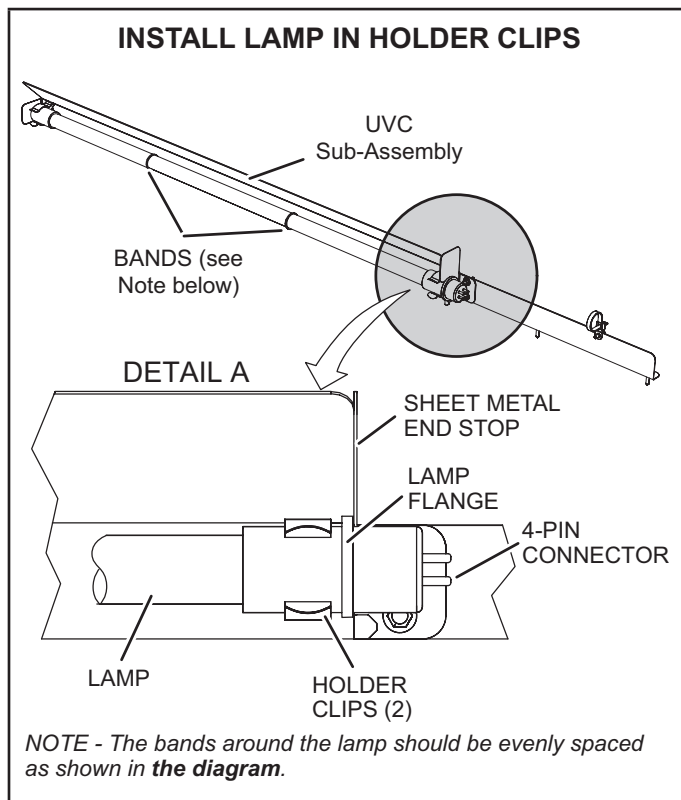

FIGURE 39
- 7 - Wear cotton gloves or use a cotton cloth when handling the new lamp. Place the new lamp in the holder clips of the UVC assembly. Verify that the lamp flange at the connector end is sandwiched between the lamp holder clip and the sheet-metal end stop (see FIGURE 39).